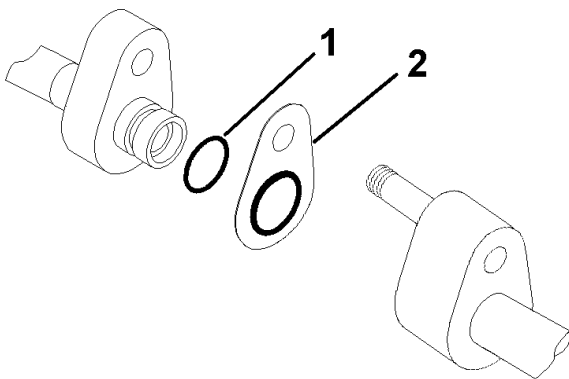

Figure 36 Fitting C-Plate and O-Ring
7. Anytime an A/C fitting is disconnected, the O-ring and C-plate must be replaced (Figure 36). The new O-ring must be lubricated with **MINERAL-BASED** oil (International P/N ZGGR6912). The C-plate does not require lubrication. Never use grease, penetrating oil, motor oil, Ester or PAG oil, etc. to lubricate O-rings and fittings.